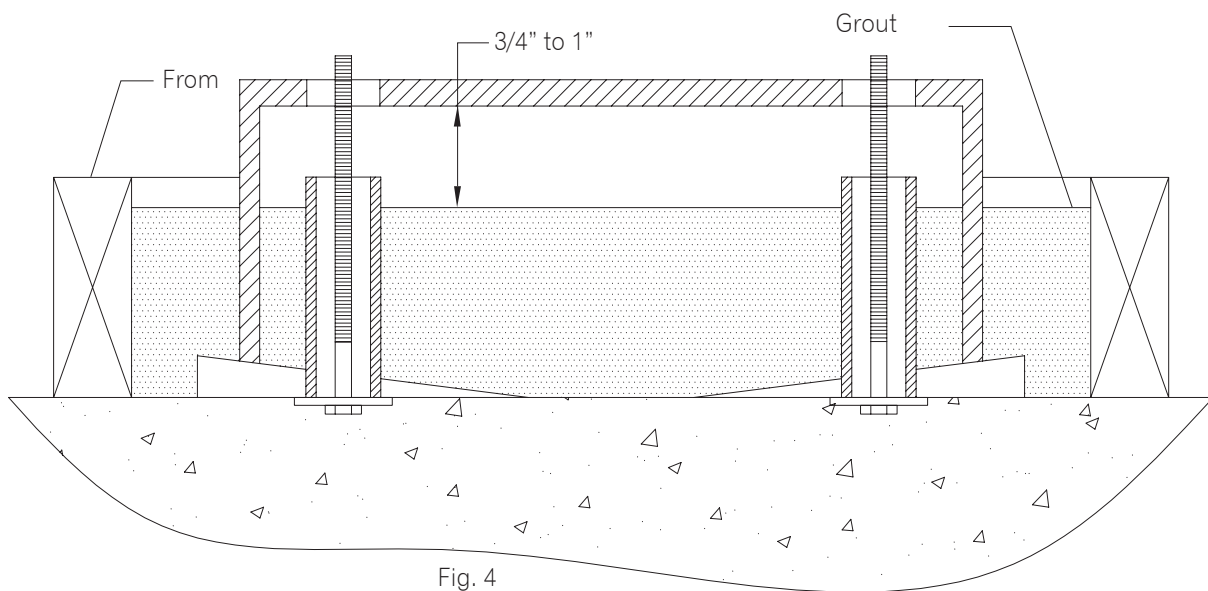

Fig. 4
2. Build a form around the base as illustrated in Fig. 4 Then thoroughly wet the foundation.